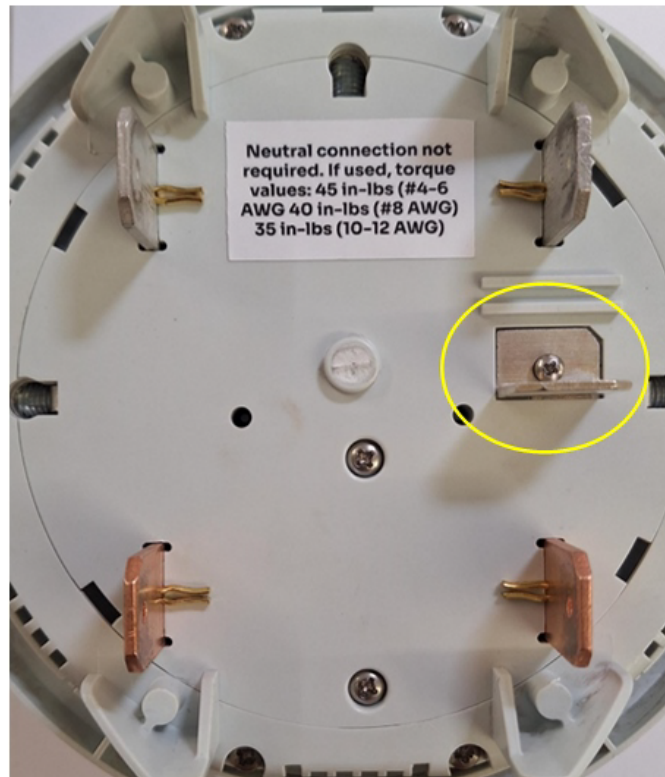

Figure 18. 5th Stab Kit with 5th jaw at 9 o'clock.
3. Attach the 5th stab to the rear of the MSA Base at the 9 o'clock position (Figure 18) using a #0 or #1 Philips screwdriver until the screw is fully seated. Torque to 5 in. lbs.